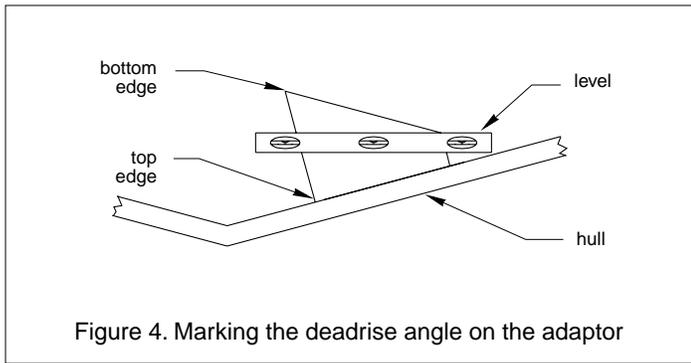

Figure 4. Marking the deadrise angle on the adaptor
1. When you are satisfied that the location of the transducer is optimal, place the adaptor *up-side-down* on the hull at the selected mounting location. *Be sure the tallest side is nearest the centerline (keel) of the hull* (see Figure 4).